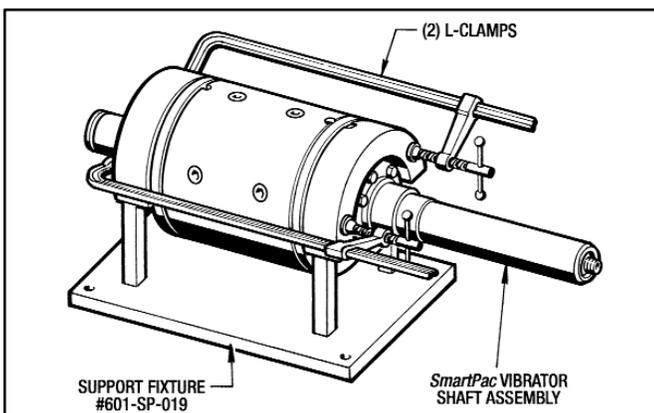

Figure 7.13 - Support Fixture #601-SP-019 & L-Clamps
and Rear Hubs are resting on the (4) key stock upright members of the fixture. (See Figure 7.13)
- Compress the entire assembly with the (2) L-Clamps so that both hubs are seated solidly into the Sleeve (#17) as shown in Figure 7.13.
10. With soft slings and an overhead hoist lift the whole assembly up and over to the **Support Fixture #601-SP-019**. Set it down so the flat surfaces of the Front and Rear Hubs are resting on the (4) key stock upright members of the fixture. (See Figure 7.13)
11. Compress the entire assembly with the (2) L-Clamps so that both hubs are seated solidly into the Sleeve (#17) as shown in Figure 7.13.